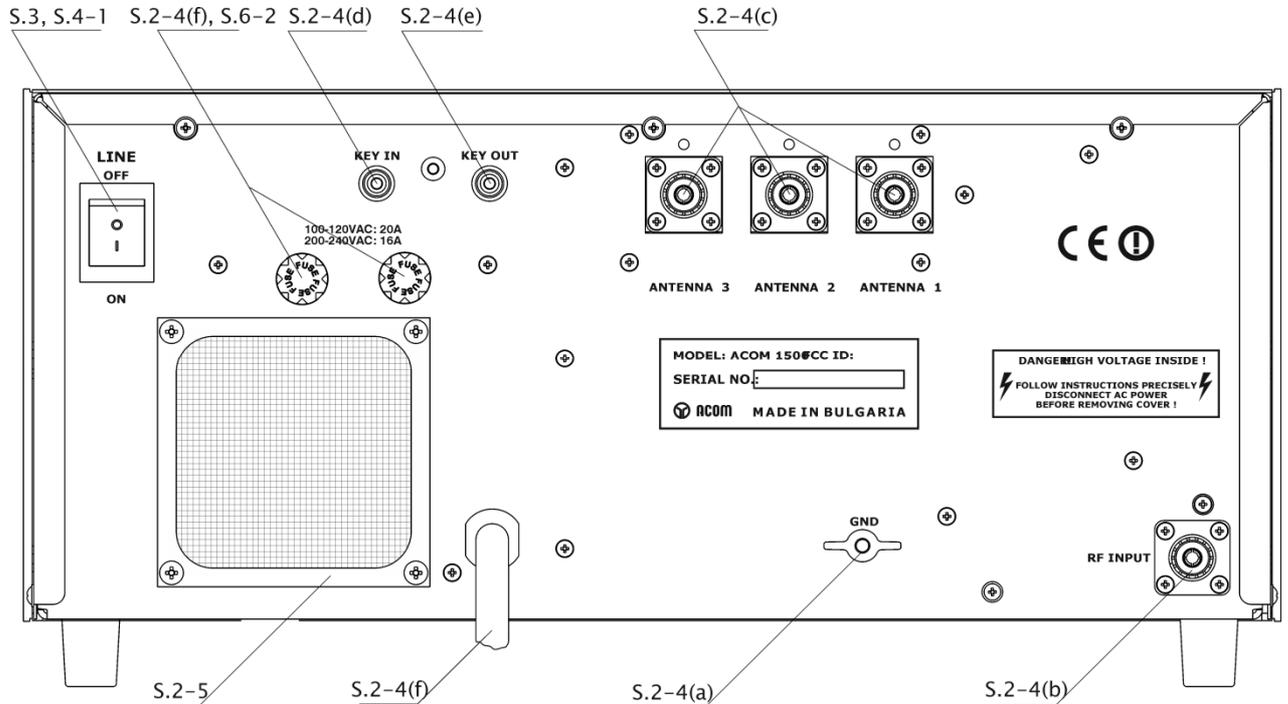

Fig. 2-1 Connections
- a) First, connect the ground stud of the amplifier (on the rear panel, marked GND) to the station's grounding system (Fig.2-1).
This fan (Fig. 2-1) is not necessary in SSB and CW modes, or in continuous carrier modes (RTTY, SSTV etc.) with a maximum carrier-down time of 15 minutes and a subsequent pause of 3 minutes. For higher duty cycles such as continuous broadcast or increased ambient temperatures the fan is recommended. The auxiliary fan (92x92x25mm or 92x92x38mm) must be a brushless type, 2...5W/24VDC. It may be installed by your dealer or by the manufacturer on request.
After following all instructions in S.2, you may turn ON the main power switch marked "LINE" on the rear panel (Fig.2-1). The LED indicator above the red ON/OFF button located on the front panel must light red and an inscription "ACOM1500" will appear on the display (Fig.3-1):